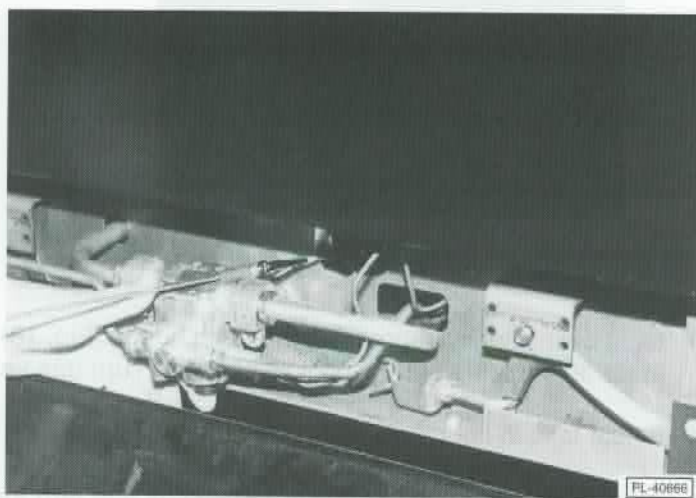

Fig. 14
2. Light pilot by depressing the reset button located behind the kick panel (Fig. 14). Continue to hold reset button in for 1 minute. If pilot fails to light, turn main gas supply OFF and wait 5 minutes before repeating Step 2.